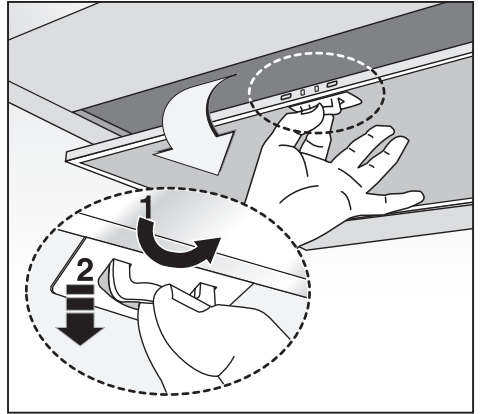

Fig.7
• The minimum distance between the support surfaces of the cooking pots on the cooker top and the lowest part of the cooker hood must be at least **65 cm**. If a connection tube composed of two parts is used, the upper part must be placed outside the lower part. Do not connect the cooker hood exhaust to the same conductor used to circulate hot air or for evacuating fumes from other appliances generated by other than an electrical source. Before proceeding with the assembly operations, remove the anti-grease filter(s) (Fig.7) so that the unit is easier to handle.